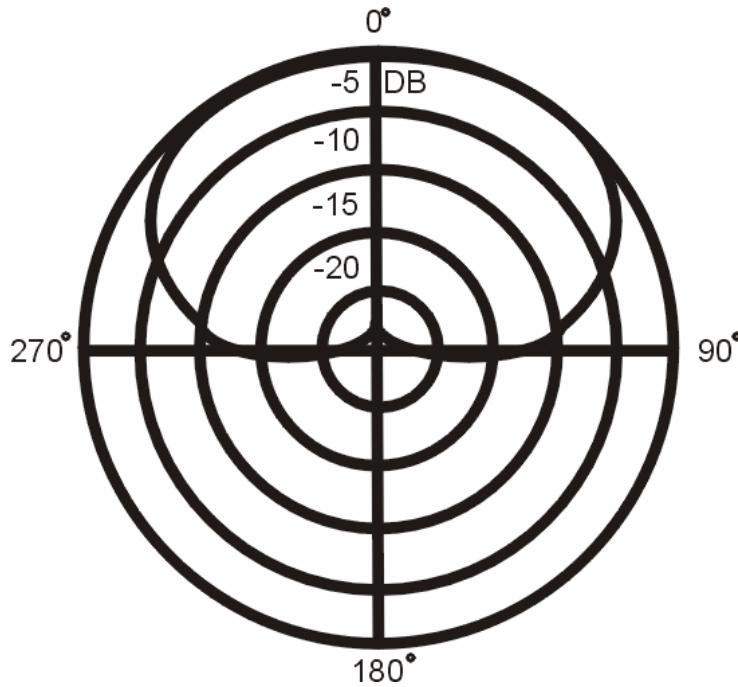

Figure K-3. Unidirectional
(3) Unidirectional. A maximum pickup pattern at 0 degrees with minimum facility at 180 degrees and with varying degrees of capability at or between points unidirectional with sound pickup from one side only (Figure K-3).